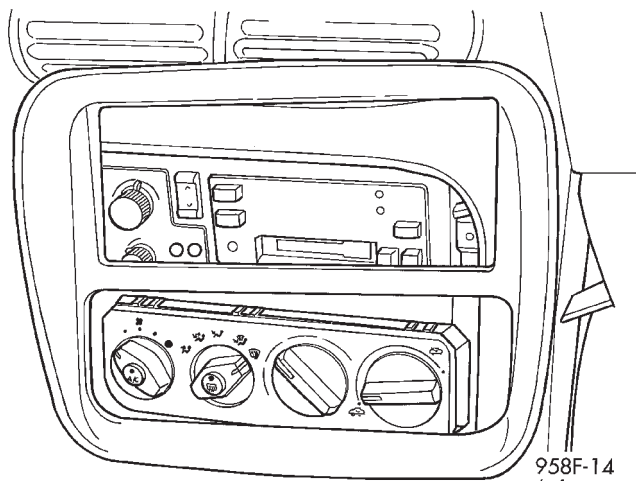

Fig. 3 Center Bezel
Pull center bezel straight rearward along the sides of the radio and A/C control openings to disengage four clips (Fig. 3).
- (1) Remove instrument panel left end cap.
- (2) Tilt steering column down to its lowest position.
- (3) Remove instrument panel center bezel by disengaging the four clips (Fig. 3).
- (1) Remove center bezel by pulling rearward to disengage four clips and remove attaching screws from cubby bin (Fig. 3).
- (2) Remove the HVAC control attaching screws. Pull the control out to disconnect two electrical connectors and two control cables. Remove HVAC control.